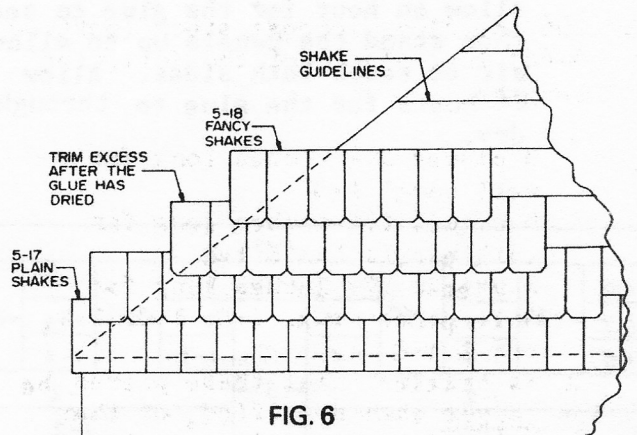

FIG. 6
12. Glue the fancy shakes (part no. 5-18) onto the gable ends in the overlapping pattern shown in figure 6. Let the shakes hang over the edges of the gables until the glue has dried.